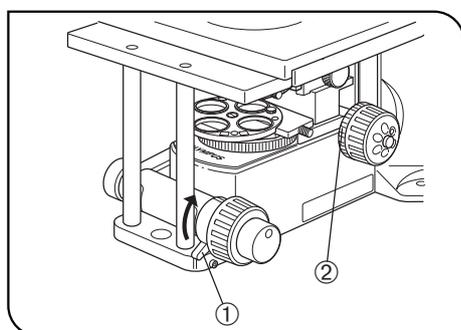

Fig. 5
1 Using the Pre-focusing Lever (Fig. 5)
(Fig. 5)
4 Adjusting the Coarse Adjustment Knob Rotation Tension (Fig. 5)
★Do not adjust the coarse adjustment knob rotation tension adjustment ring (② in Fig. 5) because the belt interlocking of the ring with the coarse adjustment knob on the front has been adjusted at the factory. If the tension is varied, the accuracy of the pre-focusing lever will deteriorate.